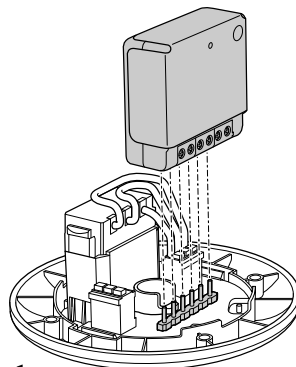

Figure 1
- 2 Insert the relay switch into its DCL, see figure 1.